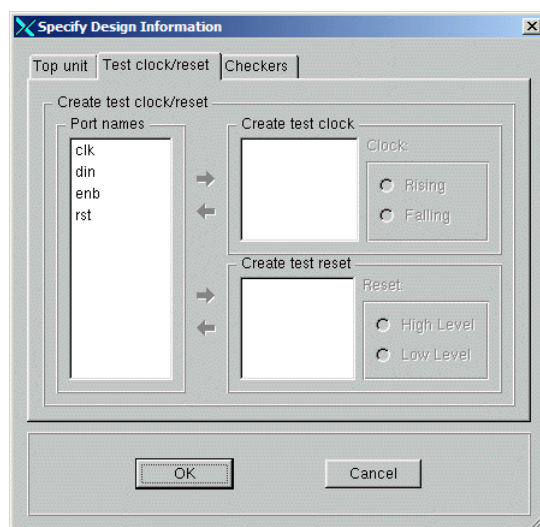

Figure 25: Test Clock/Reset Tab
1. To create test clocks or resets from ports named in the Specify Design Information window, click the Test clock/reset tab. This changes the display as shown in Figure 25. Note that generation of data for the Clock and Reset Tree browsers can slow Leda’s performance on large netlists. Use this feature only when needed. It is off by default.